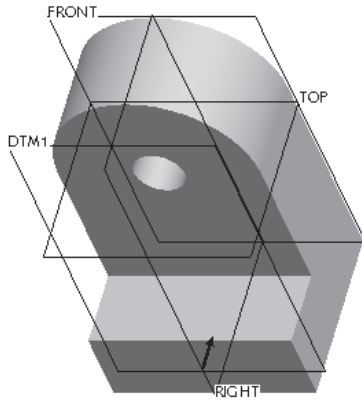

Figure 5-64 Arrow on **DTM1** showing the direction of viewing the sketching plane
3. Select **DTM1** as the sketching plane for the third feature. A yellow arrow is displayed on the selected datum plane, as shown in Figure 5-64. This arrow shows the direction of viewing the sketching plane.